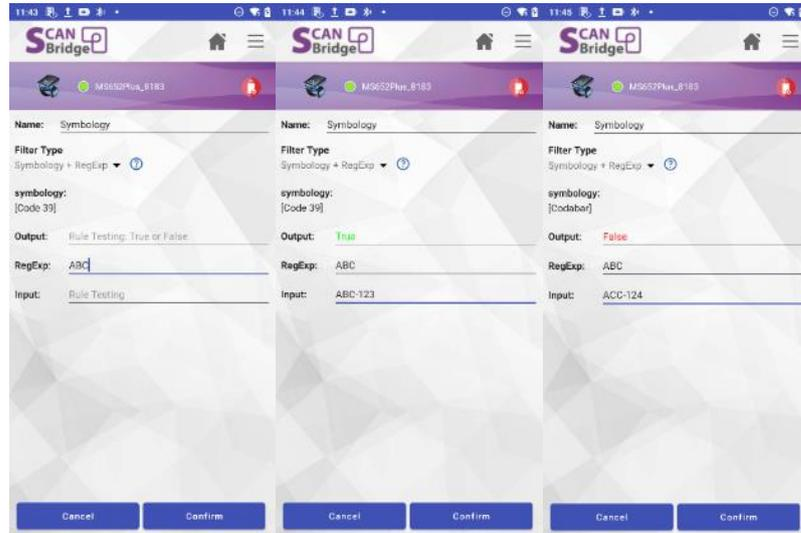
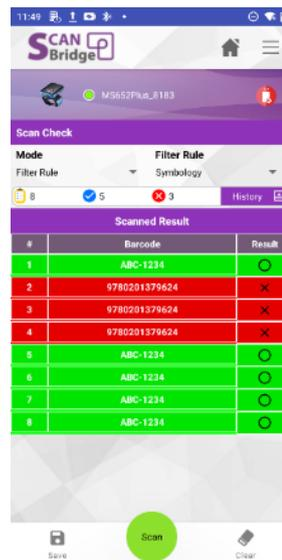

Figure 7.4.7
Figure 7.4.8
- To set regular expression, simply enter in RegExp text field. Additionally, user can use the “Input” field to run quick test. In below example (Figure 7.4.7), it will perform partial match to scanned result which contain ‘ABC’, if there is a partial match will consider as match. You can see the check with when symbology is also checked in Figure 7.4.8